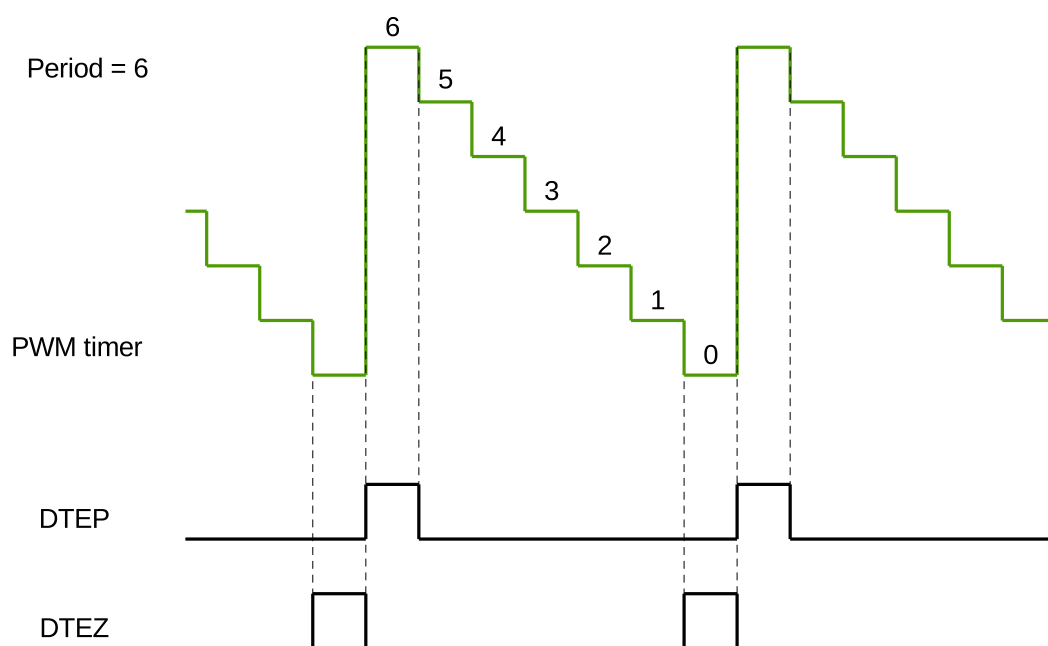

Figure 16-12. DTEP and DTEZ Generation in Count-Down Mode
2. DTEP and DTEZ do not happen simultaneously. When the PWM timer is in count-down mode, DTEZ will always happen one cycle earlier than DTEP, as demonstrated in Figure 16-12, so their action on PWM signals will not interrupt each other. When the PWM timer is in count-up-down mode, DTEZ will not occur.